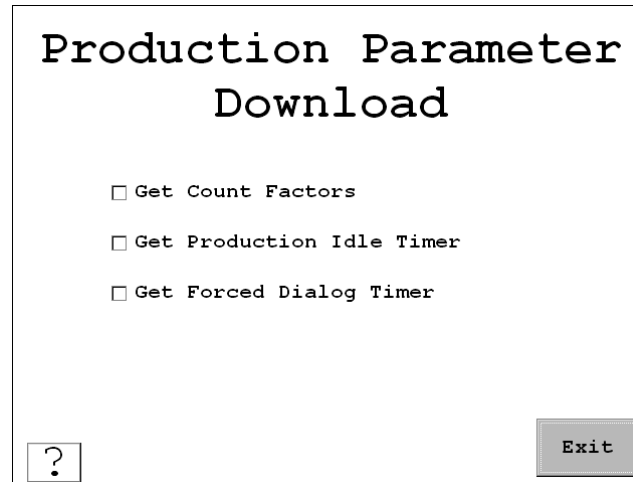

Figure 3-26. Production Parameter Download Screen
3. Press *Production Parameter Download*. The Production Parameter Download screen appears, Figure 3-26.